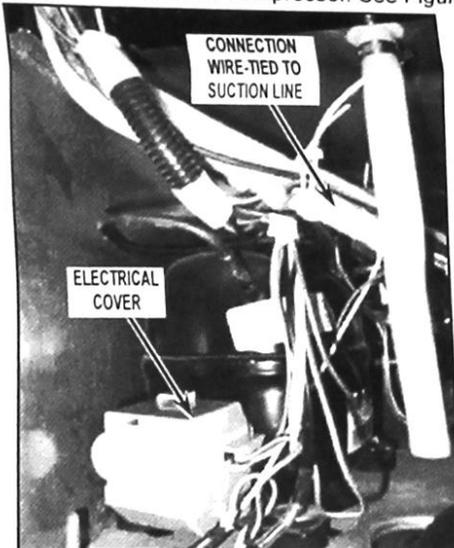

FIGURE 7
- Wire tie connector in the specified location shown and install grey electrical cover back on compressor. See Figure 7.